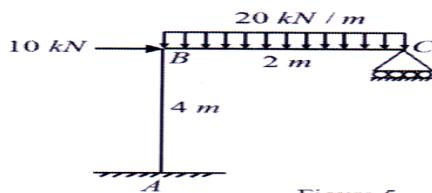

Figure 5
- b) Determine the unknown joint displacements of the portal frame as shown in Figure 5 using stiffness matrix method. Take EI constant. [12]